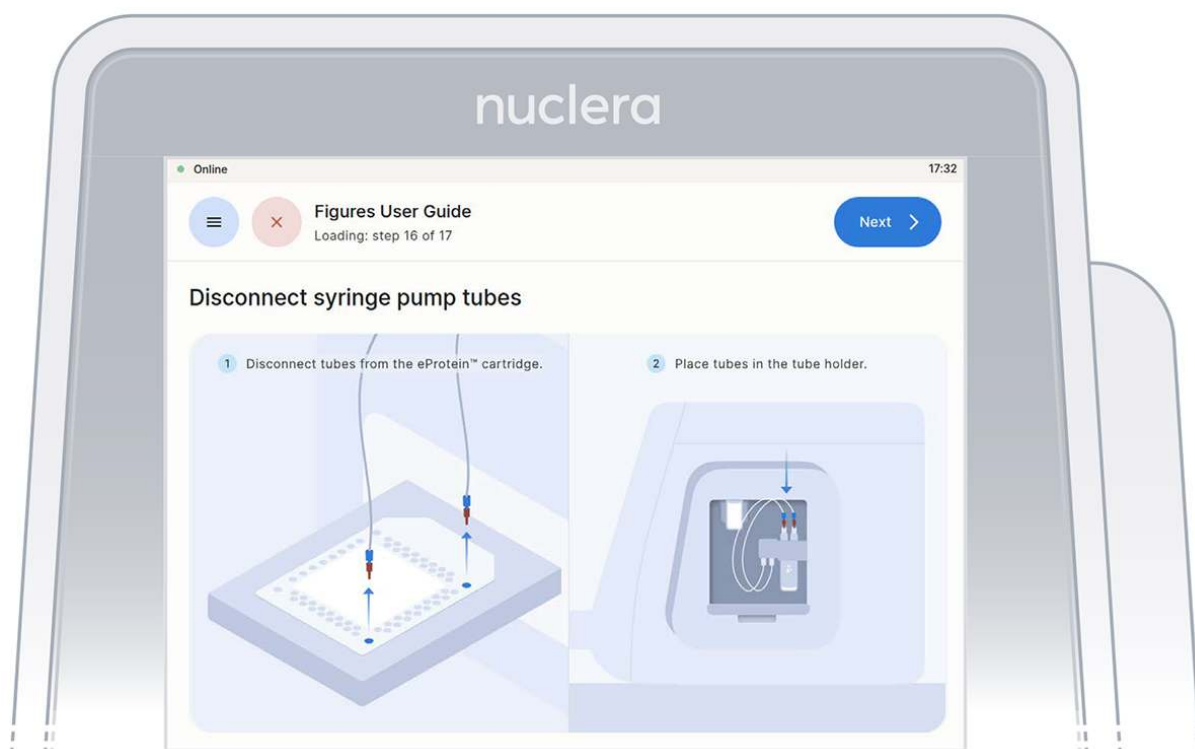

Figure 25: Disconnect the tubes and place them on the tube holder
2. Disconnect the tubes from the cartridge and place them in the tube holder on the right hand side of the instrument. Press the **[Next]** button on the screen (Figure 25), and the drawer will close. Quality controls will be performed. The experiment will start.